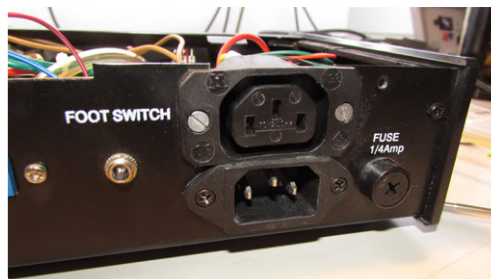

Figure 6: Power outlet for the compressor.
**Figure 6** shows the power outlet installed for the compressor, of course, its original power plug must be replaced with a matching C14-style plug.